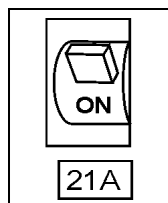

Figure 18. Main Circuit Breaker (ON)
- Place main circuit breaker (Figure 18) in the **ON** position.